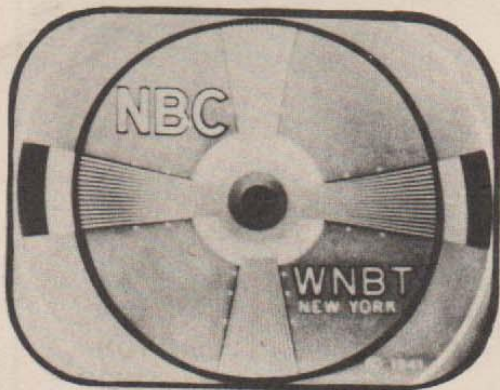

Fig. 4. Correctly Adjusted
11. If necessary, turn the **HORIZONTAL** control until a stationary picture is obtained. (See Fig.4).